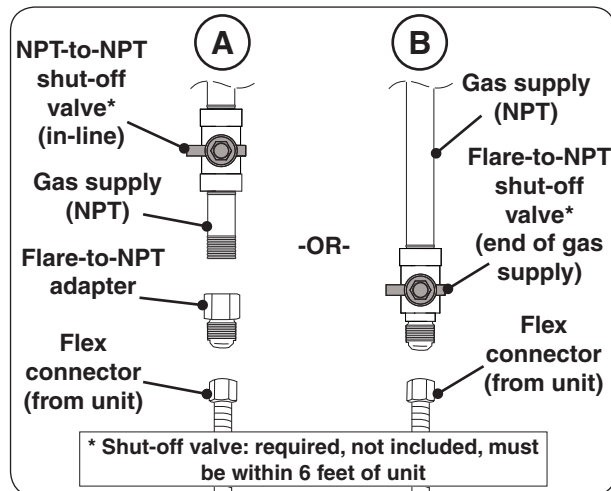

Fig. 21-1 Connecting to a gas line
- Install the supplied flare-to-NPT adapter to the gas supply (NPT) using a pipe joint compound resistant to all gasses (see Fig. 21-1, A). Tighten securely.
- Connect the flex connector to the adapter (see Fig. 21-1, A). Tighten securely.
- Connect the flex connector to the shut-off valve (flare) (see Fig. 21-1, B). Tighten securely.